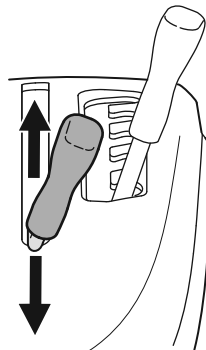

Figure 19
2. Push the PTO (Blade Engage) lever forward into the engaged (ON) position. See Figure 19.